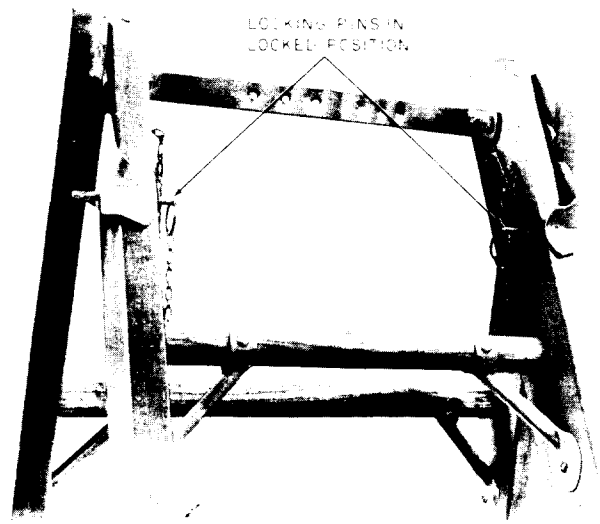

Fig. 4—Locking Pins in Locked Position
4.02 To use the C combination ladder as a stepladder, spread the two sections apart at the bottom. The bracket/hinge assembly secures the ladder in the open position and is locked into position by inserting locking pins (Fig. 4).